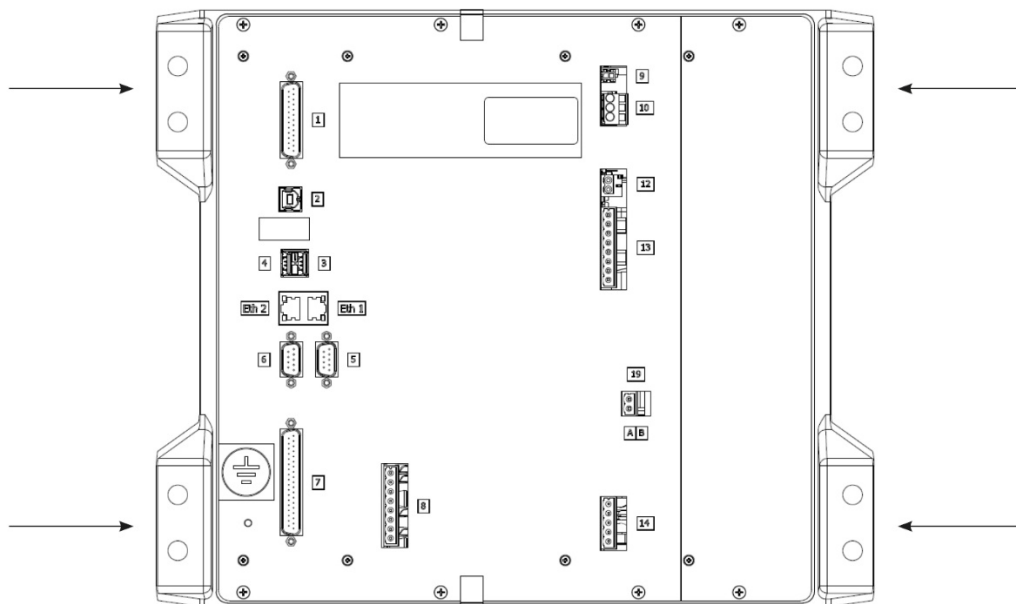

Figure 76
- 2) Unscrew four nuts fixing the RCM and remove the washers (Figure 76);